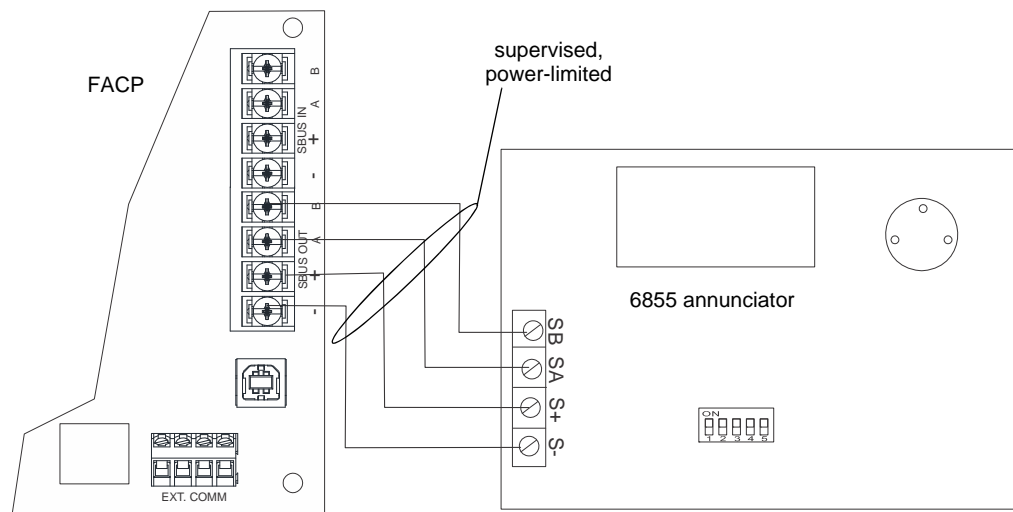

Figure 4.17 6855 Connection to the Panel
7. Wire the annunciator board to the main control panel. Refer to Figure 4.17.
7. Run wires to the control panel. Refer to Figure 4.17.